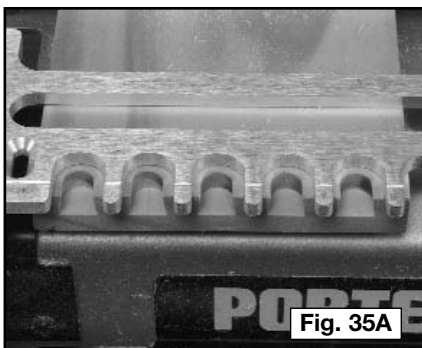

Fig. 35A
Step 1 - Cut the tails. Clean out all of the areas between the fingers (Fig. 35A).